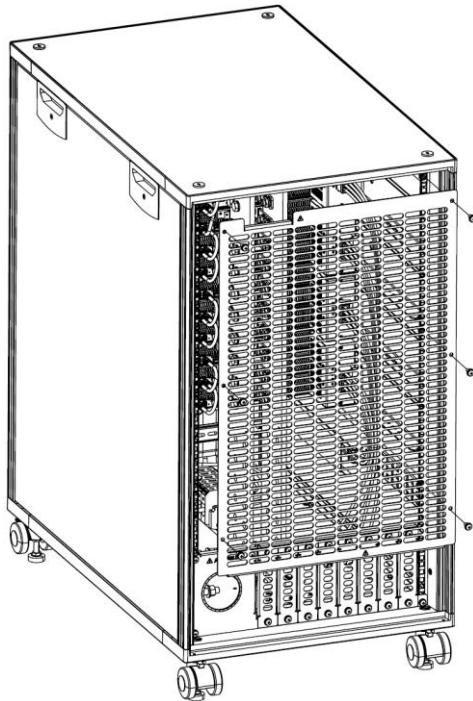

Figure 4-5: Rear Panel Disassembly
1. Unscrew fixing screw to remove the rear panel of the cabinet as shown in Figure 4-5.